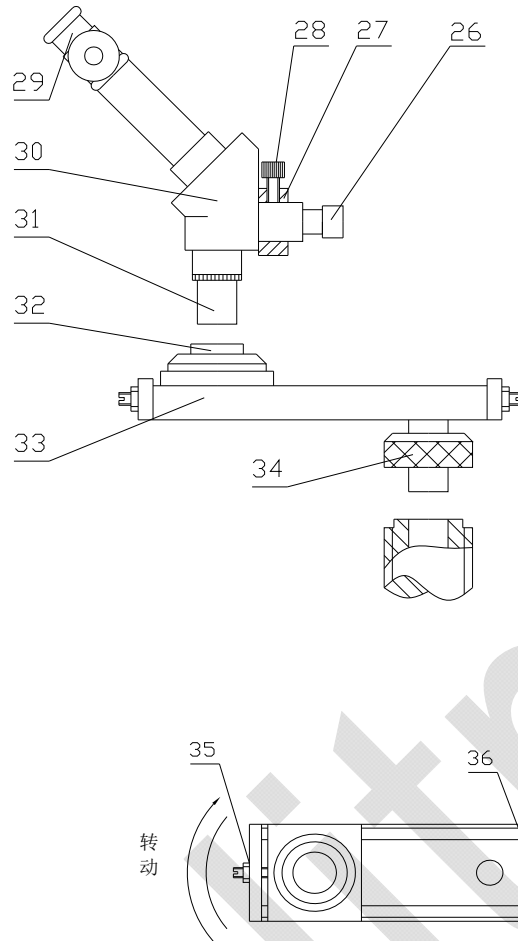

Fig. 5
3.1 Take out the special device from accessories kit and clean rust preventing oil from it. Assembly the Slipped Testing Table (33) with the UP and Down Moving Shaft according to installing drawing (Fig. 5), Fasten the Knurled Nut (34).
(Fig. 5)